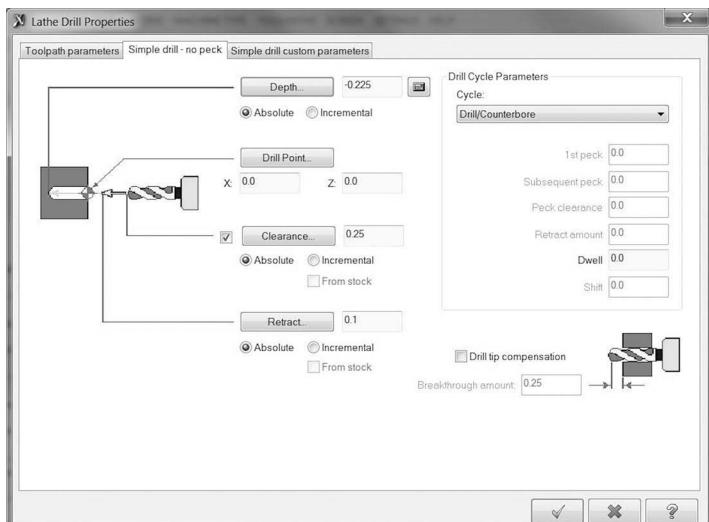

Figure 5-75 Simple Drill Parameters
- Select the Simple drill—no peck tab and adjust the settings to match Figure 5-75. Use the Calculator button next to the Depth field to access the Depth Calculator